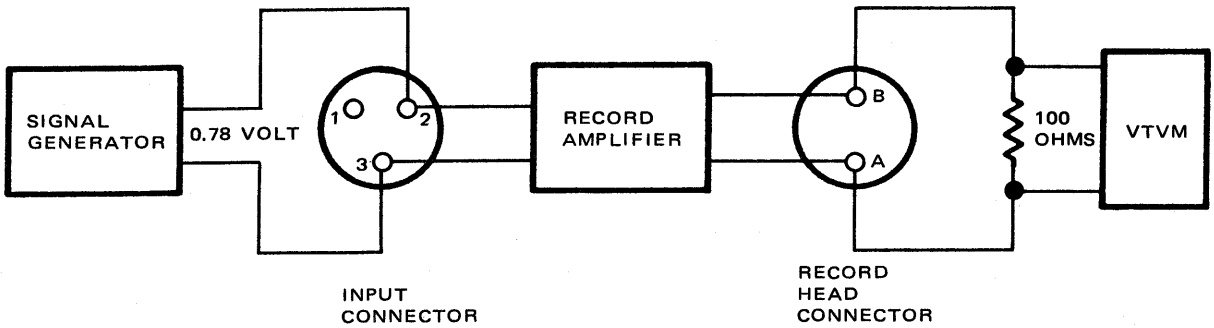

Figure 5-24. Troubleshooting Setup for Record Amplifier
2. Measuring the voltage across a resistor substituted for the record head (see Figure 5-24).